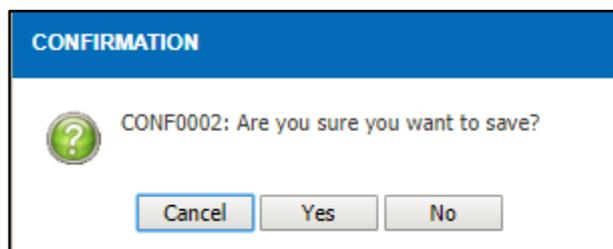

Figure 3.2-6 Save Record Alert Message
- After clicking save, an alert message will be displayed as per Figure 3.2-6, click on the  button to confirm saving of the record.